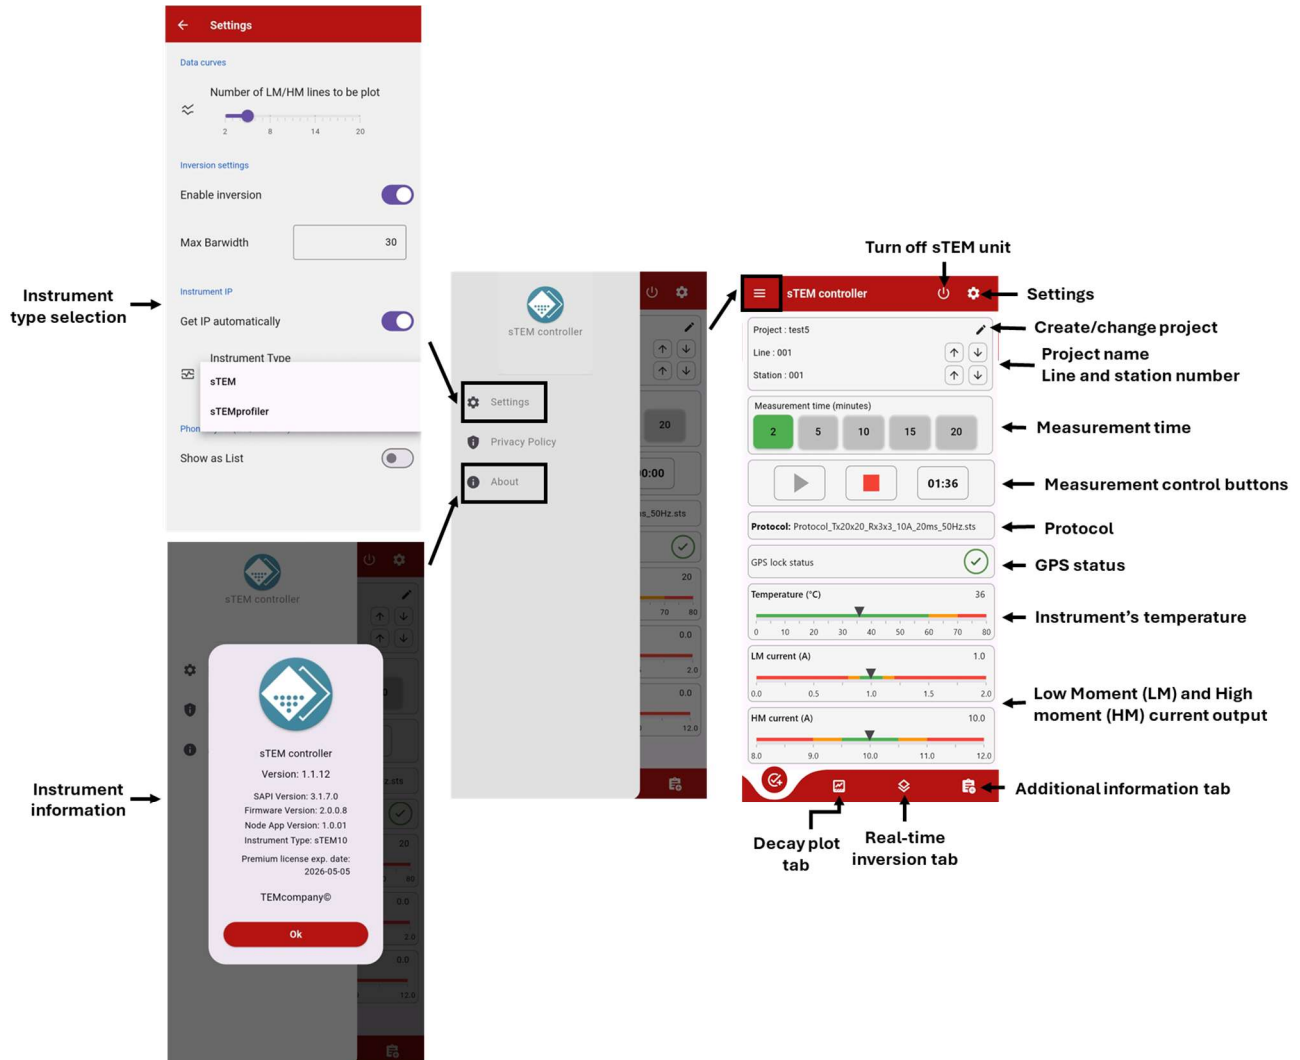

Figure 12. sTEM Controller app environment start-up and menu. Version 2.0.1.
- Open the sTEM Controller app, which should display the controller interface as shown in Figure 12, if properly connected.
Figure 12 shows the main menu and the different options of the app once you are connected to the unit.
a) Inversion is turned off – Go to **Settings** and make sure inversion is enabled (Figure 12).